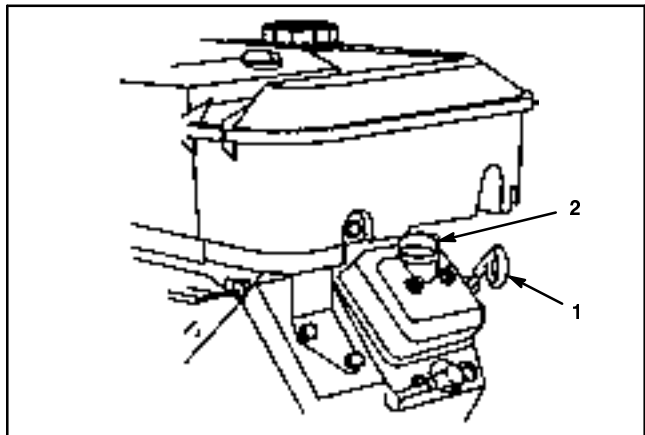

Figure 5
6. Pour oil into fill opening until the oil level is up to the "FULL" mark on the dipstick. Add oil slowly and check level often during this process. **Do not overfill (Fig. 5).**
7. Install filler cap and dipstick firmly in place (Fig. 5).
4. Pour oil into fill opening until the oil level is up to the "FULL" mark on the dipstick. Add oil slowly and check level often during this process. **Do not overfill (Fig. 5).**